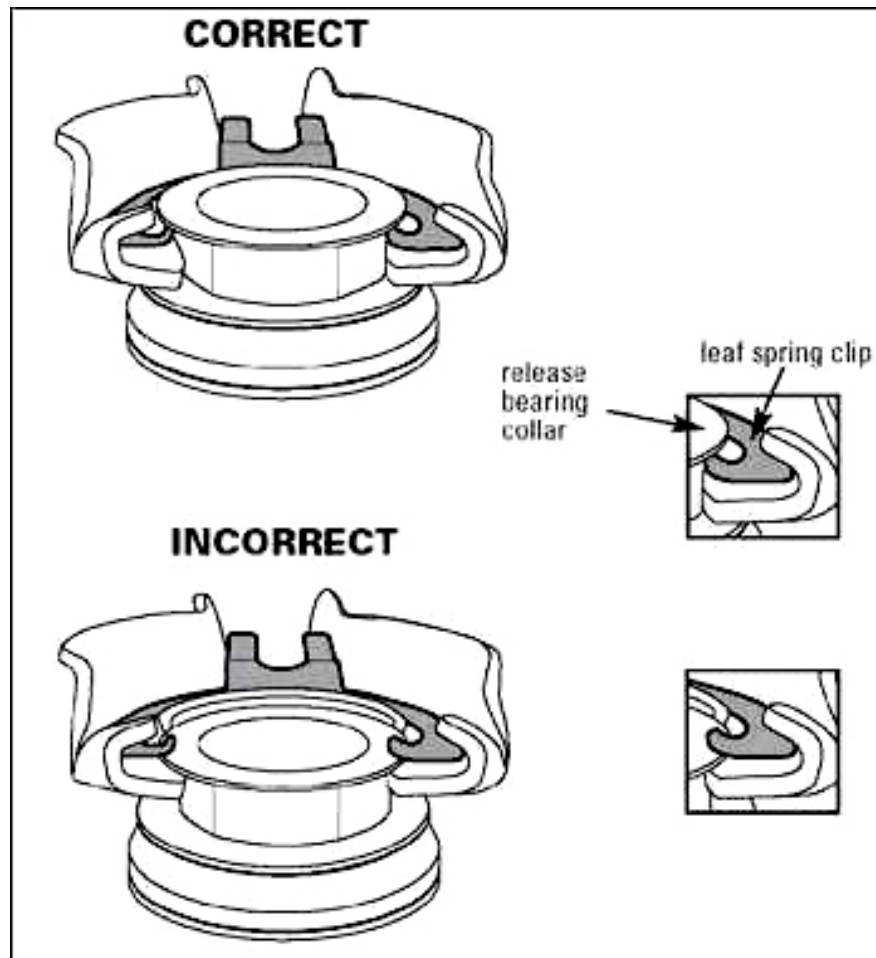

Fig. 1
2. Properly secure the throw out bearing onto the clutch fork (**Fig. 1**) and secure the clutch fork onto the ball stud.